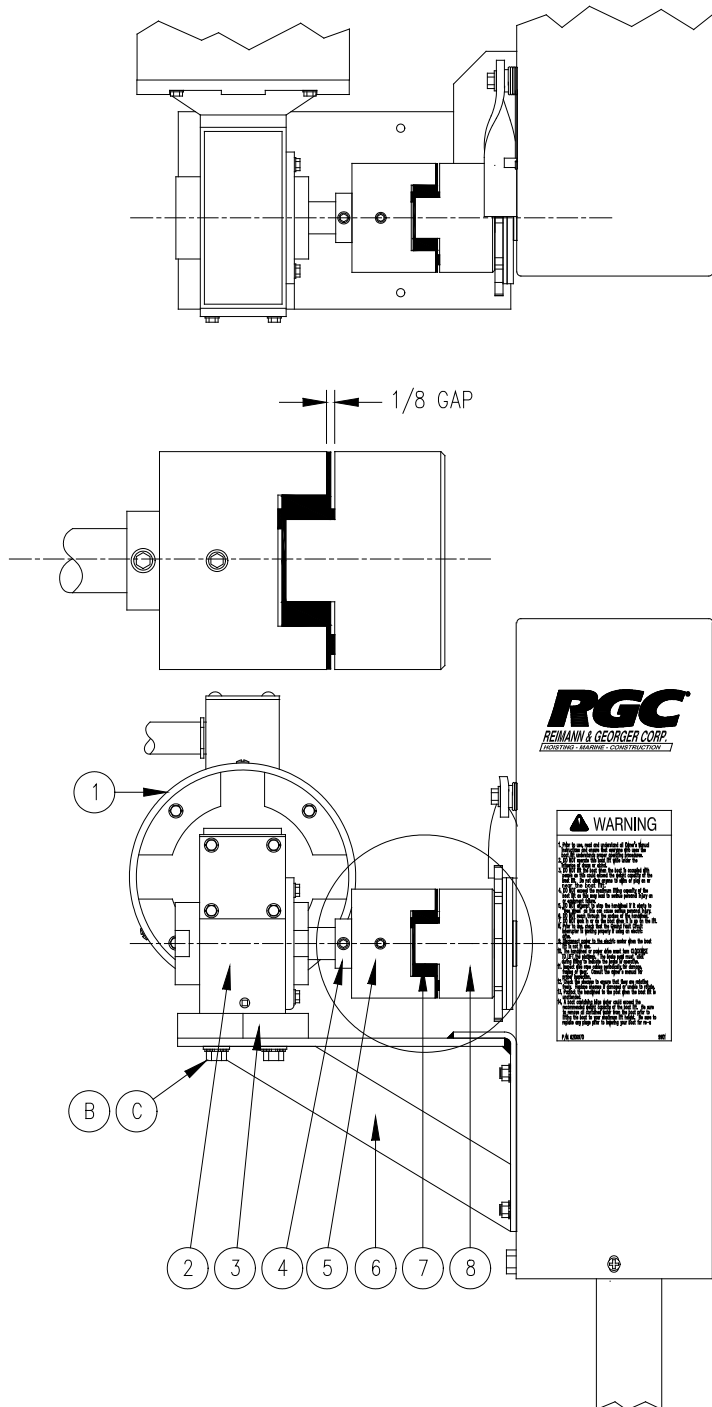

Figure 3-3
1. Refer to Figure 3-3. The center line of the direct drive coupler must align with the center line of the winch input shaft coupler. Align if necessary, by loosening the gearbox mounting bolts and positioning the gearbox as required. Re-tighten bolts.